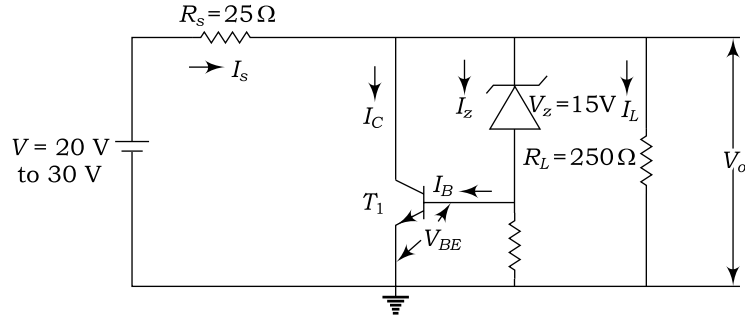

Fig. 1.39
24. A transistor shunt regulated power supply is shown in Fig. 1.39. Determine (a) the output voltage, (b) load current, and (c) source current. Assume zener resistance is equal to zero, $V_{BE} = 0.7$ V and $R_B = \infty$.